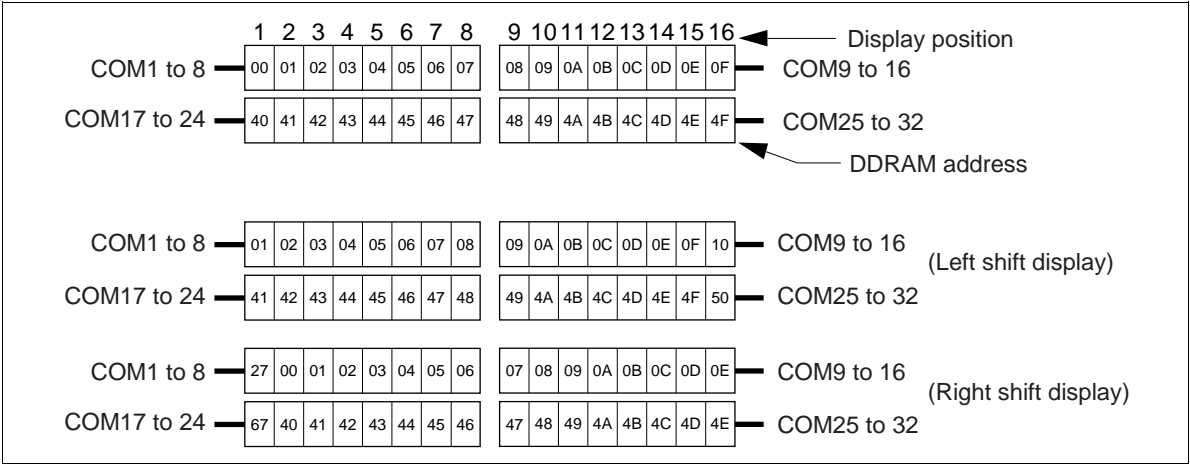
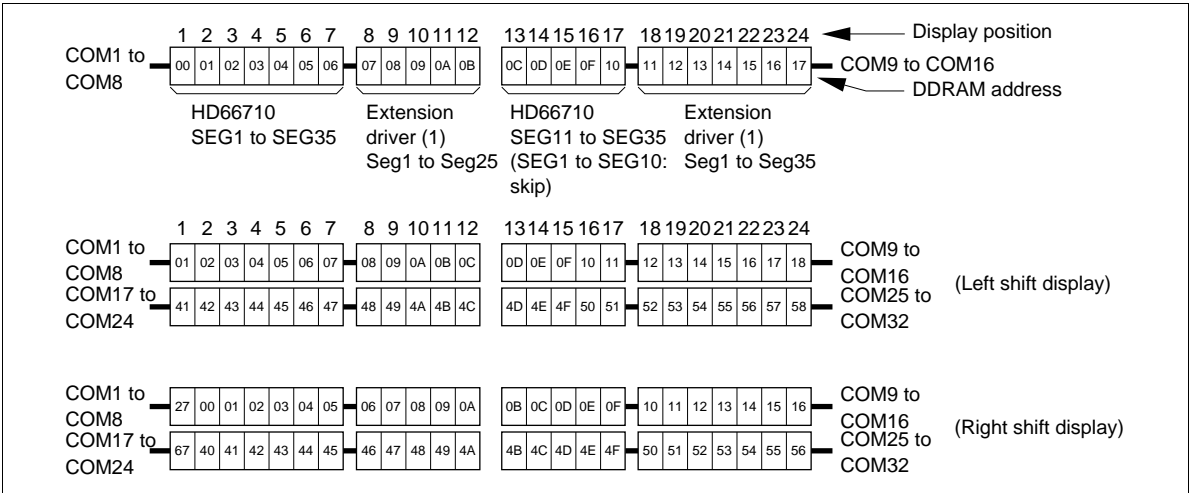

Figure 4 2-line by 16-Character Display Example
Figure 5 2-Line by 24 Character Display Example
- Case 1: The first line is displayed from COM1 to COM16, and the second line is displayed from COM17 to COM32. Care is required because the end address of the first line and the start address of the second line are not consecutive. For example, the case is shown in Figure 5 where 16 × 2-line display is performed using the HD66710. When a display shift operation is performed, the DDRAM address shifts. See Figure 4.
- Case 2: Figure 5 shows the case where the EXT pin is fixed to high, the HD66710 and the 40-output extension driver are used to extend the number of display characters.
When a display shift operation is performed, the DDRAM address shifts. See Figure 5.